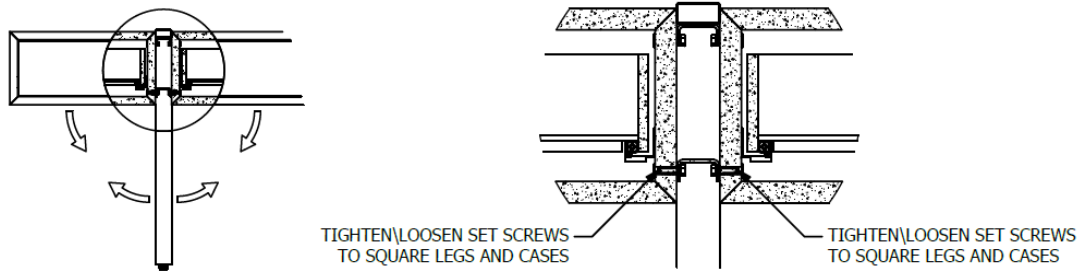

FIGURE 09:
5. If assembling a 1-High Credenza, verify the squareness of the Cases and Legs. If adjustments are needed, loosen\tighten the set screws located inside the Cases (On End Panels near the Bottom Panel). See Figure 09.